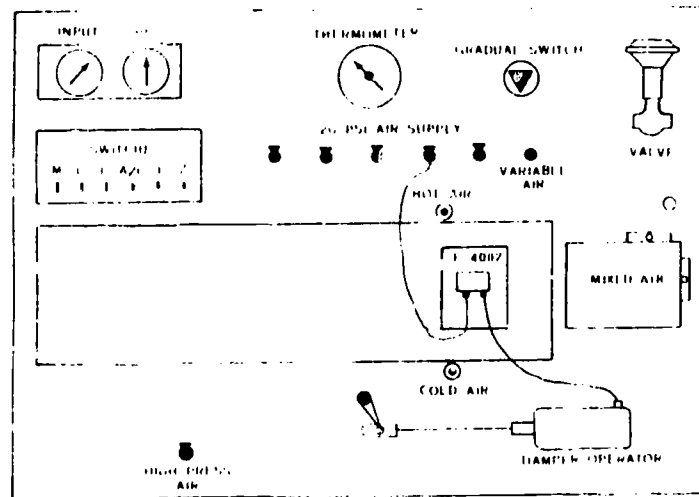

figure 1
3. Using a T-4002 thermostat, and a refrigeration controls trainer, connect lines as shown in Fig. 1.